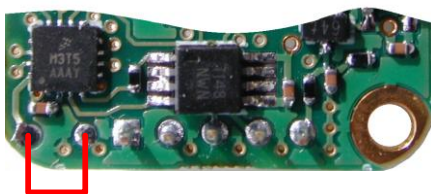

Figure 7.1 Reset to factory default values (bottom view of pcb)
2. Short programming pads on bottom of PCB as shown in figure 7.1.